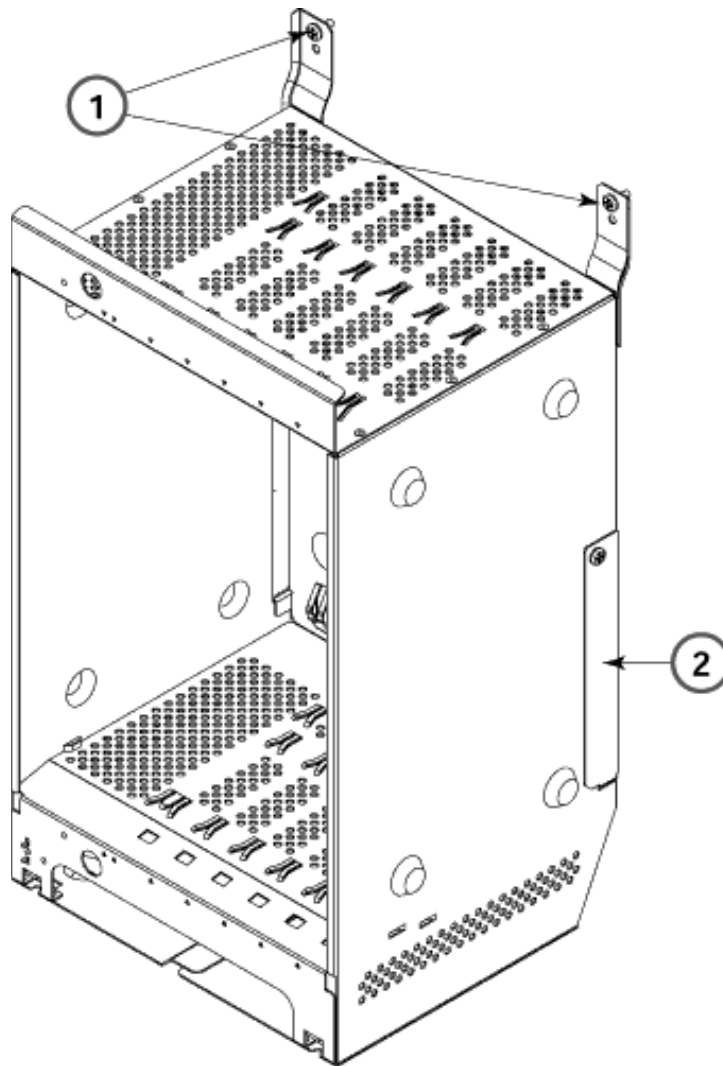

Figure 2-4. Securing the Left and Right Bracket
8. Secure the left and right mounting brackets to the backboard with a minimum of one #10 X 3/4" long wood screw in each bracket as shown in Figure 2-4 on page 2-6.
6. Secure the left and right mounting brackets to the backboard with a minimum of one #10 X 3/4” long wood screw in each bracket as shown in Figure 2-4 on page 2-6.